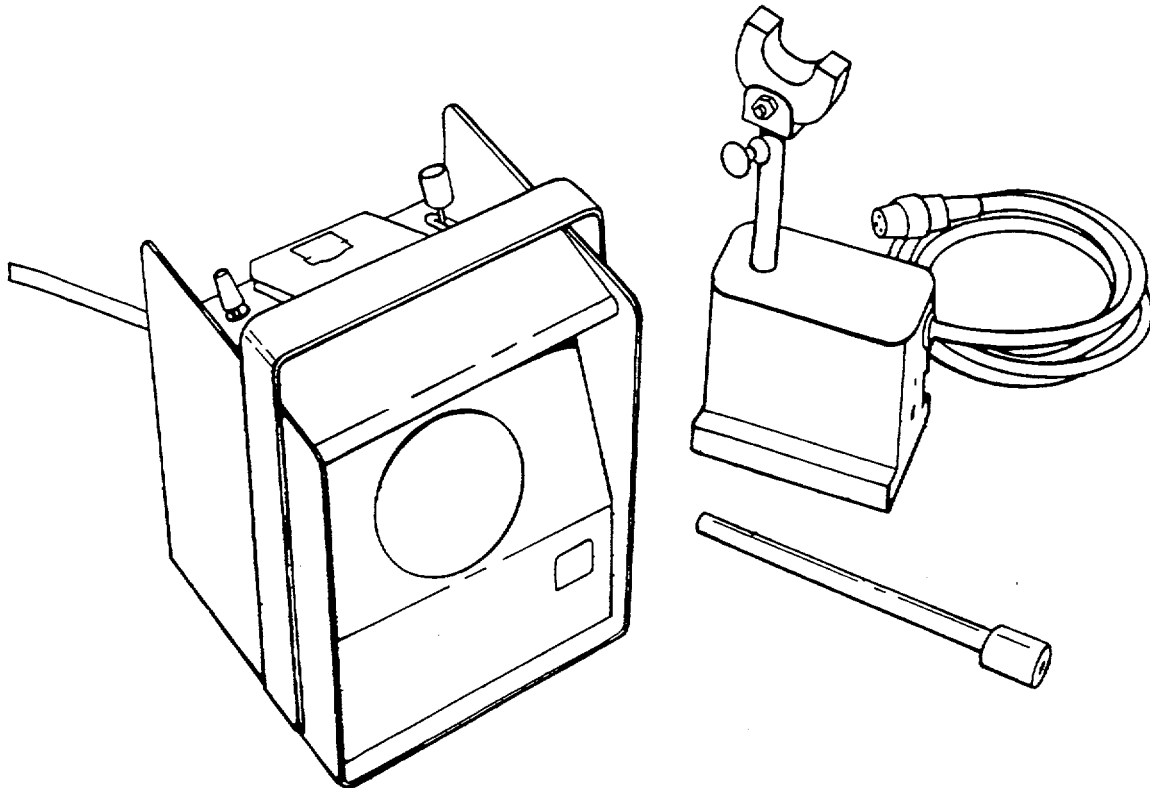

Figure 2. On-Vehicle Electronic Wheel Balancer
by means of its spring suspension system (5). The vibration pick-up assembly (6) has the magnet-rod assembly (7) adjusted by thumb screw (8) so the U magnet is in firm contact with a flat surface on the lower suspension member. See Figure 2 for detail of the vibration pick-up.